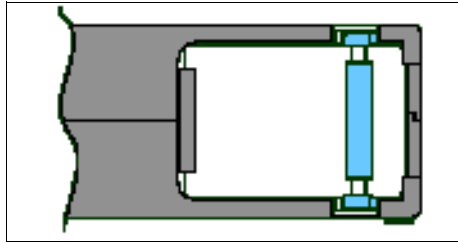

Figure 2-18 Correct leader pin placement
- ▶ When there is evidence of poor handling or shipping, ensure that the cartridge leader pin (Figure 2-18 on page 52) is undamaged before inserting the cartridge in a drive or library, because a bad cartridge can damage a drive.